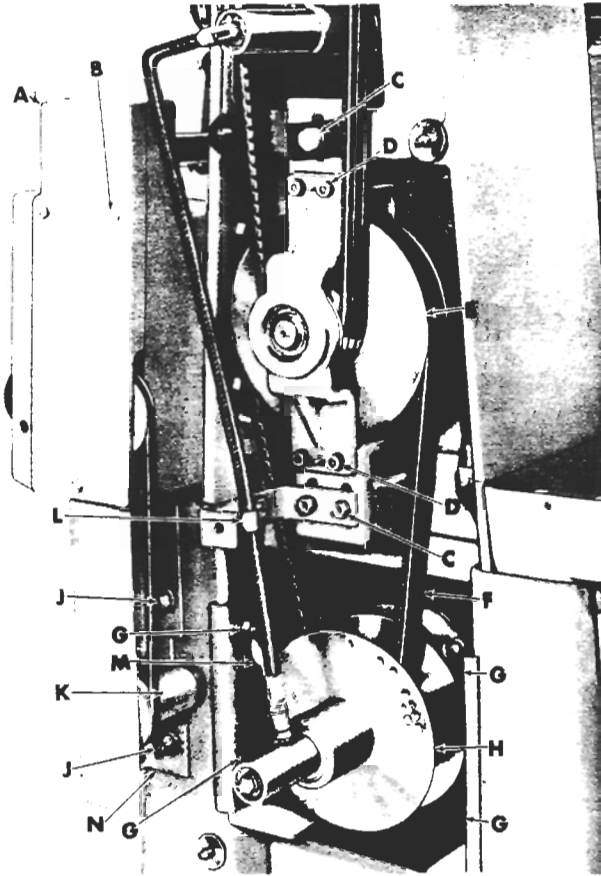
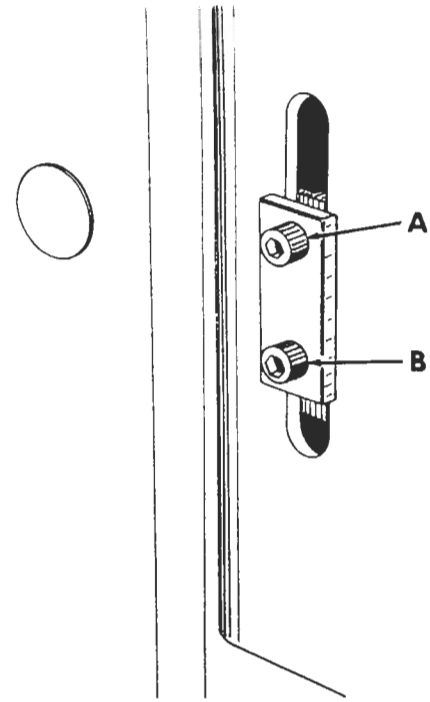

Figure 39
Figure 40
2. Loosen screws (B, fig. 39) and remove rear cover plate (A).
3. Loosen two cap screws (A and B, fig. 40) on power feed pulley assembly (K, fig. 39) and take belt off pulley.